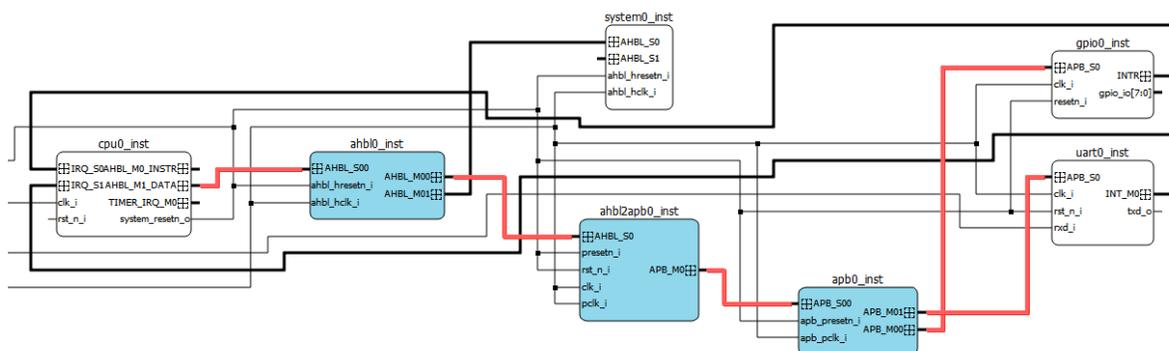

Figure 2.52. Interface Connection on from CPU to Bus/Bridge instances in Schematic View
A. If a project contains a CPU instance, the interface connection starts from the CPU instance, then to one bus/bridge instance, and then to another bus/bridge instance. After connecting all bus/bridge instances one by one (`cpu0 > ahbl0 > ahbl2apb0 > apb0`), finally connects to other instances (`gpio0, uart0`). See Figure 2.52 and Figure 2.53.